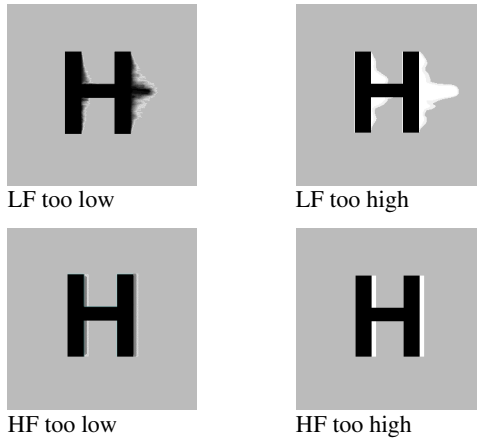

Figure 13 **Problems with smearing and sharpness requiring LF and HF adjustment**
8. Fine-tune the LF equalization to remove ‘black video smearing’ - black smears to the right of large objects such as window title bars (see Figure 13).
9. Fine-tune the HF equalization to sharpen the video image. Increase HF Equalization until a white edge to the right of small characters just starts to appear (see Figure 13).